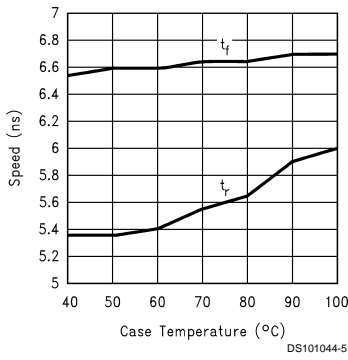

FIGURE 4. Speed vs Temperature
*Figure 4* shows the performance of the LM2435 in the test circuit shown in *Figure 2* as a function of case temperature. The figure shows that the rise time of the LM2435 increases by approximately 12% as the case temperature increases from 50°C to 100°C. This corresponds to a speed degradation of 2.4% for every 10°C rise in case temperature. There is a negligible change in fall time vs. temperature in the test circuit.